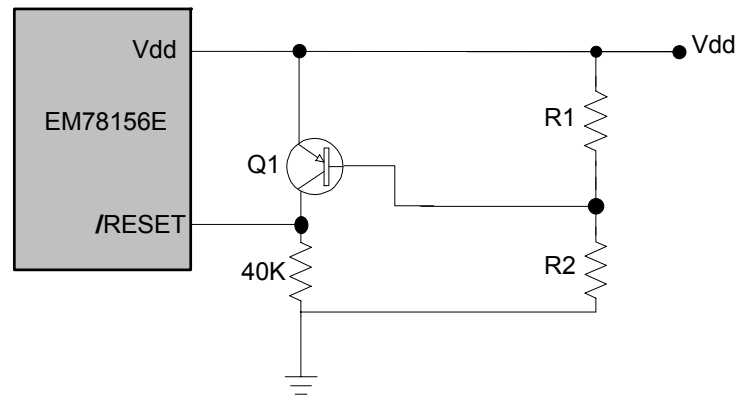

Fig. 16 Circuit 2 for the Residue Voltage Protection
The circuit shown in Fig.16 implements an external RC to produce the reset pulse. The pulse width (time constant) should be kept long enough for V_{dd} to reached minimum operation voltage. This circuit is used when the power supply has slow rise time. Because the current leakage from the /RESET pin is about ±5μA, it is recommended that R should not be greater than 40 K. In this way, the /RESET pin voltage is held below 0.2V. The diode (D) acts as a short circuit at the moment of power down. The capacitor C will discharge rapidly and fully. R_{in}, the current-limited resistor, will prevent high current or ESD (electrostatic discharge) from flowing to pin /RESET.